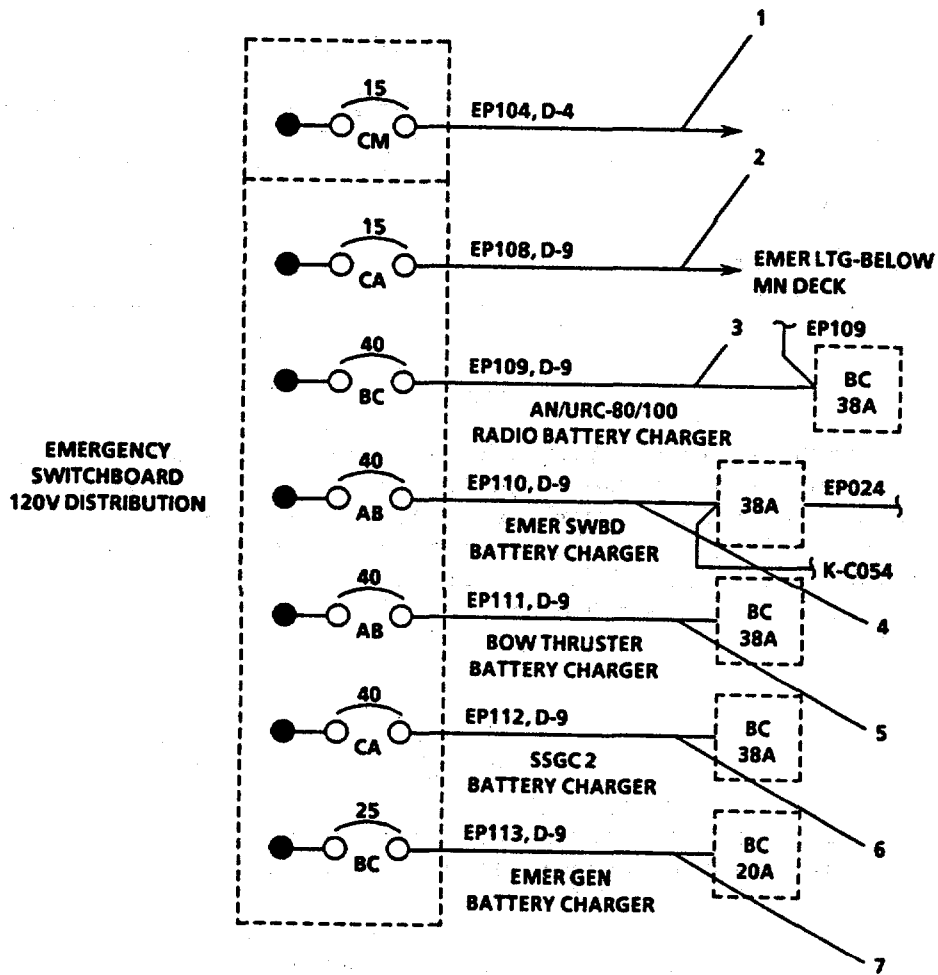

FIGURE 3-160. Emergency Power Lighting.
**3-175. Repair Emergency Power Lighting. (Figure 3-160)**